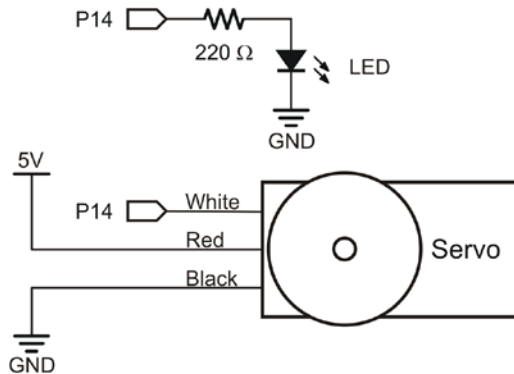
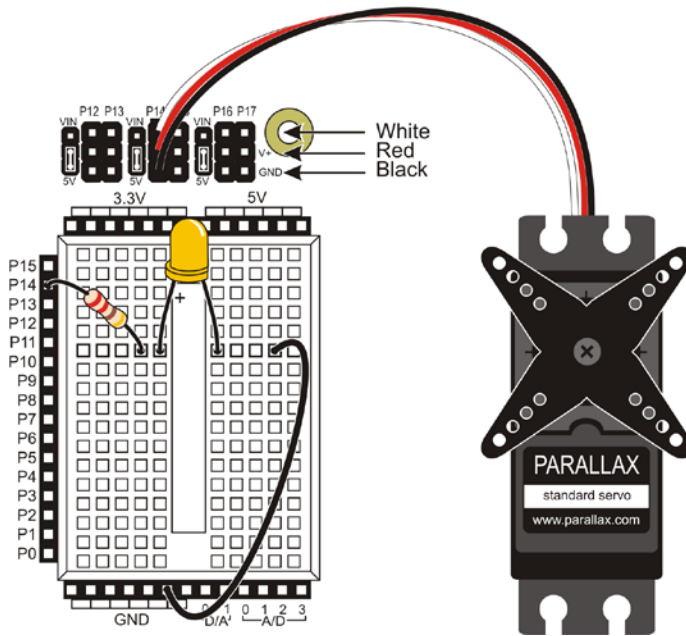

Figure 4-7
Figure 4-8
Figure 4-7 shows the schematic of the circuit you will build on your Activity Board.
- ❑ Build the circuit shown in Figure 4-7 and Figure 4-8.
- ❑ Make sure you did not plug the servo in upside-down. The white, red and black wires should line up as shown in Figure 4-8, with the white wire near the top edge of the board.